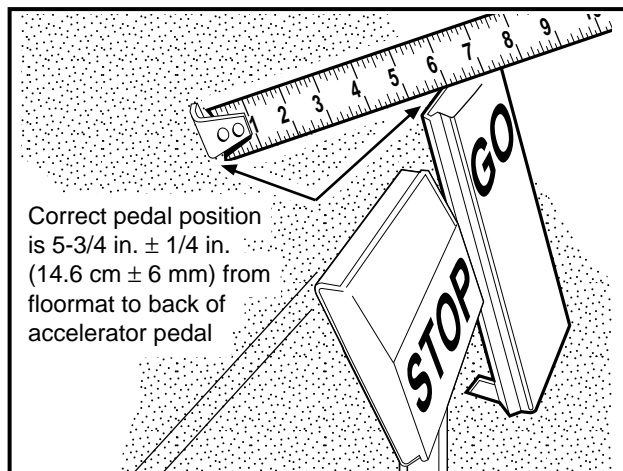

Figure 5-5 Accelerator Pedal Height
1. Measure the distance from the top of the accelerator pedal to the floorboard. If the distance is within the range of 5-3/4 inches \pm 1/4 inch (14.6 cm \pm 6mm) (**Figure 5-5, Page 5-4**), adjusting the accelerator pedal is not necessary. Proceed to Step 5.